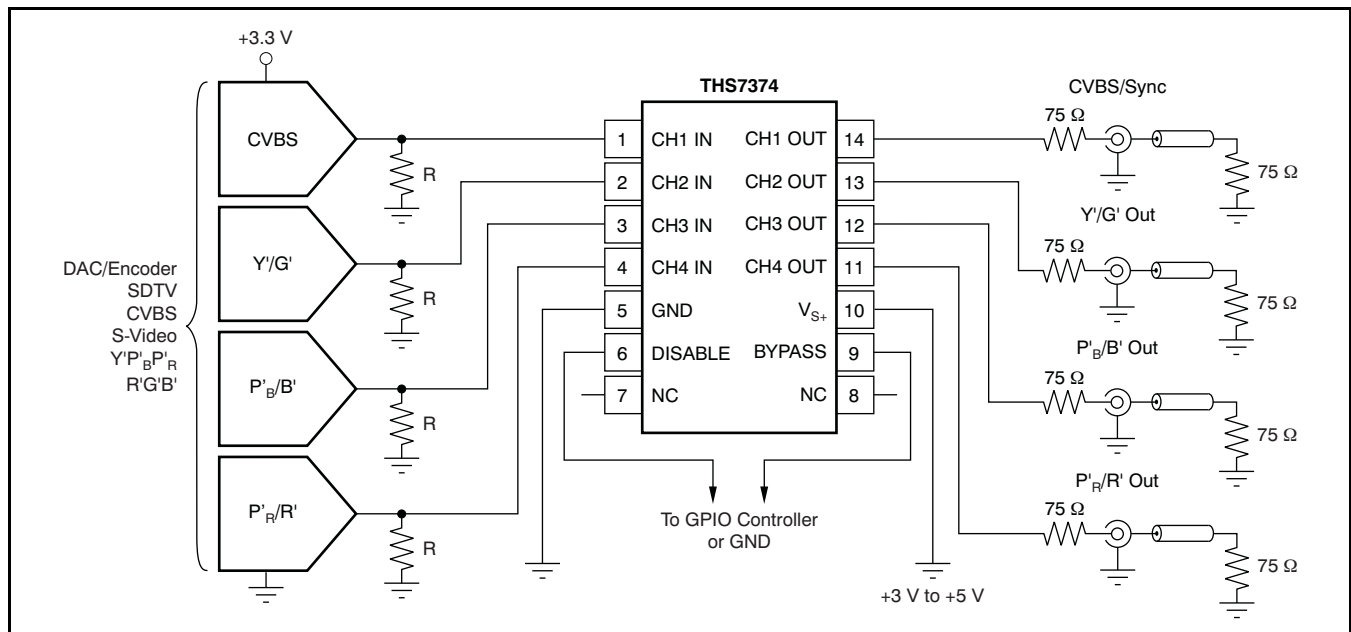

Figure 36. Typical SDTV CVBS/ $Y'P'_BP'_R$ Inputs from DC-Coupled Encoder/DAC with DC-Coupled Line Driving
A typical application circuit that uses the THS7374 as a video buffer is shown in Figure 36. It shows a DAC or encoder driving the input channels of the THS7374. One channel is a composite video (CVBS) channel of a standard definition (SD) video system. The other channels are the component video $Y'P'_BP'_R$ (sometimes labeled $Y'U'V'$ or incorrectly labeled $Y'C'_BC'_R$) signals of a 480i or 576i system. These channels could easily be the s-video Y'/C' channels or the $R'G'B'$ channels of a SCART system.